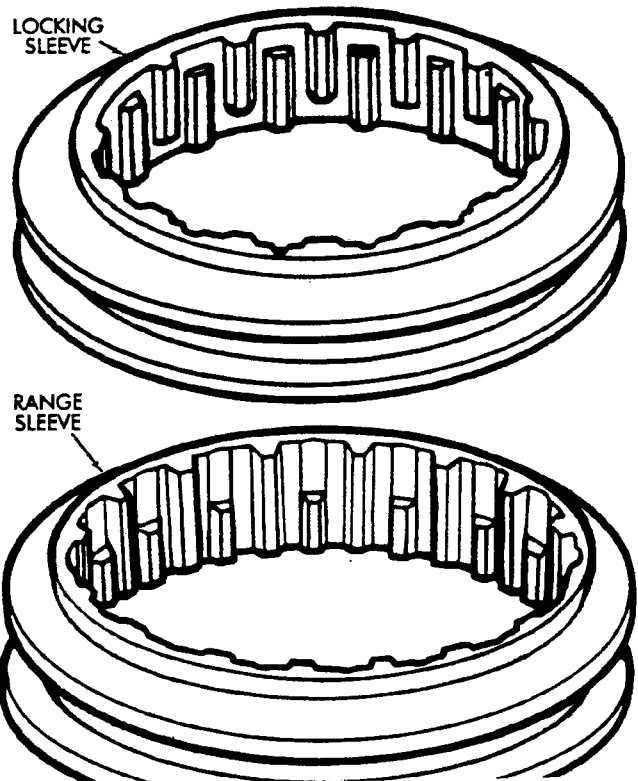

Fig. 4-48 Clutch Sleeve Identification
38. Identify the range and mode sleeves before installation (Fig. 4-48). The sleeves have different splines and are not interchangeable.